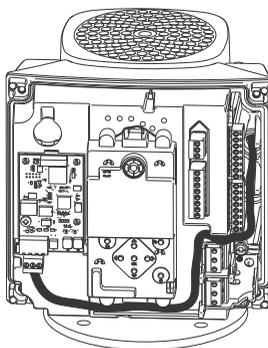

Fig. 64 Example of wire routing
- Route the wires for the CIM module. See the example in fig. 64.